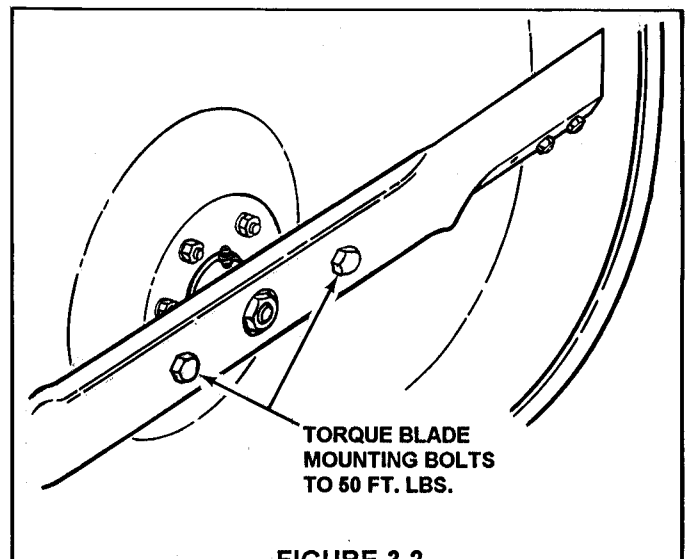

FIGURE 3.2
5. Check torque of blade mounting bolts. As necessary, torque to 50 ft. lbs. See Figure 3.2.